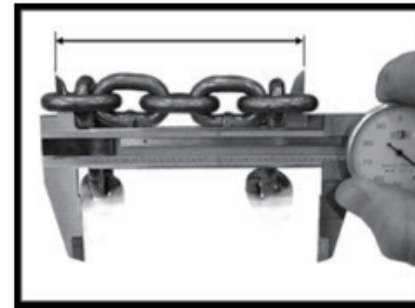

FIG 15
3. Clean the chain before inspection. Examine for gouges, nicks, weld splatter, corrosion, and distorted links. Slacken the chain and move adjacent links to one side, looking for wear at the contact points. If you see wear or suspect stretching, measure the chain as explained in FIG 15. If chain matches or exceeds the limit shown in the table, replace the load chain before using the hoist.
4. If the length of used chain exceeds 2-1/2 percent of the unused chain, replace the chain. (See "Load Limits" on FIG 15 for specific link measurements.)
Carefully inspect entire load chain. As illustrated in FIG 15 and table below, measure five consecutive links with calipers to measure the length. Check every three feet and especially where excessive wear is indicated. Any load chain that shows noticeable deformation or heat influence must be replaced with a new one. Never extend load chain by welding a second piece to the original.